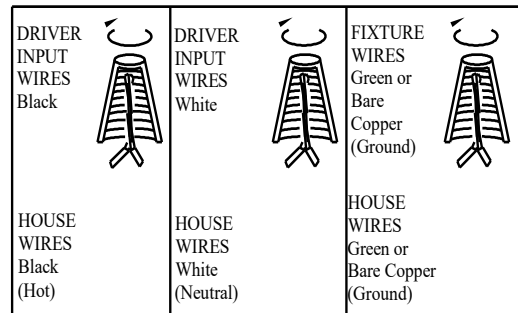

Fig.3
6. Align the back plate (D) onto the mounting plate (A) and secure with screws (F) and washers (E).
7. To prevent moisture from entering the junction box and causing a short circuit, use clear caulking (i.e. Outdoor silicone sealant) to outline the outside of fixture back plate (D) where it meets the wall leaving a space at bottom to allow moisture a means to escape (Fig.3).
8. Install (1) one candelabra base bulbs up to 60 watts each or CFL or LED equivalent (Not included), in accordance with the fixture specification (**DO NOT EXCEED THE MAXIMUM WATTAGE RATING!**) (**NE PAS DEPASSER LA PUISSNCE NOMINALE MAXIMLE!**)
9. Install the glass (I) onto the fixture body (H) and secure with screws (G). Don't too tighten.